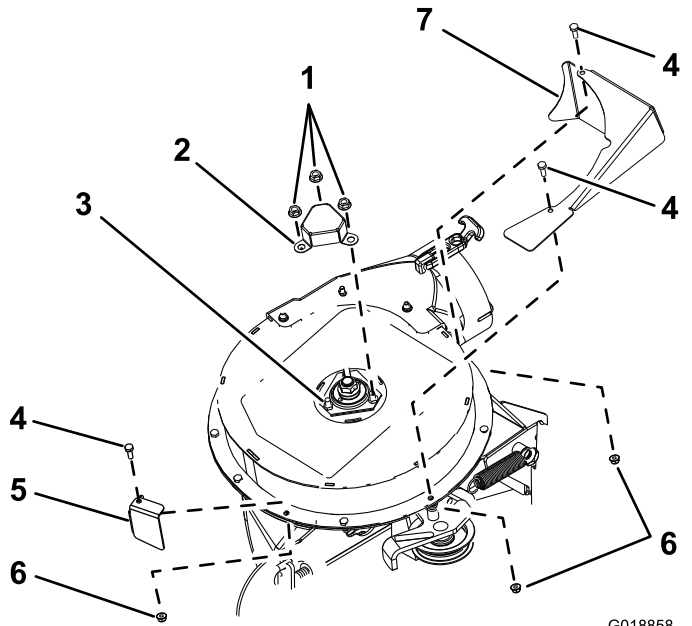

Figure 13
1. Align the CE shaft guard to the 3 bolts and 3 nuts that secure the upper bearing housing (Figure 13).
2. Secure the CE shaft guard to the blower with the 3 serrated nuts (Figure 13).
1. Align the CE forward guard to the upper blower housing (Figure 13).
2. Secure the CE forward guard to the upper blower housing with a hex-head bolt (1/4 x 3/4 inch) and a locknut (1/4 inch) as shown in Figure 13.
3. Align the CE tensioner guard to the upper blower housing (Figure 13).
4. Secure the CE tensioner guard to the upper blower housing with 2 hex-head bolt (1/4 x 3/4 inch) and 2 locknuts (1/4 inch) as shown in Figure 13.